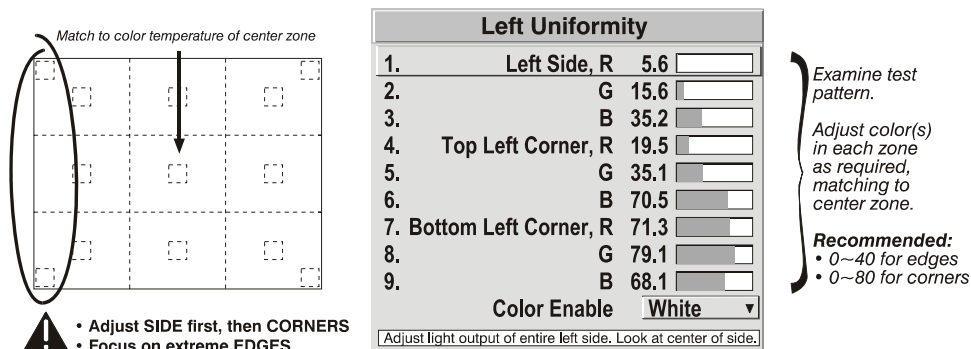

Figure 3.21. Match Zones to Center Color Temperature
- 2b)** Return to the *White Field Uniformity* menu. Beginning with the screen that exhibits the most obvious color shift(s), for each edge that exhibits a noticeably different color temperature from the center, select the corresponding *Uniformity* adjustment menu — *Left*, *Right*, *Top* or *Bottom*. For example, if any part of the left side is too blue, too red or too green, go to the *Left Uniformity* menu and adjust the colors (i.e., change their light output) until all portions of the left side closely match the center color temperature. Adjust an edge first (focusing on its center), and then adjust its corners. See Figure 3.21.